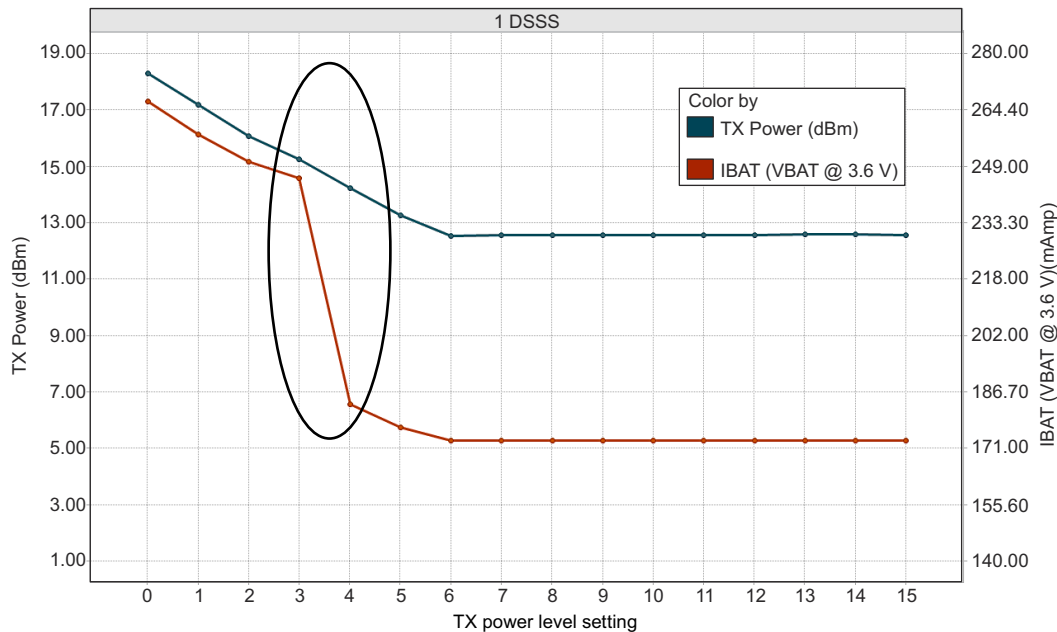
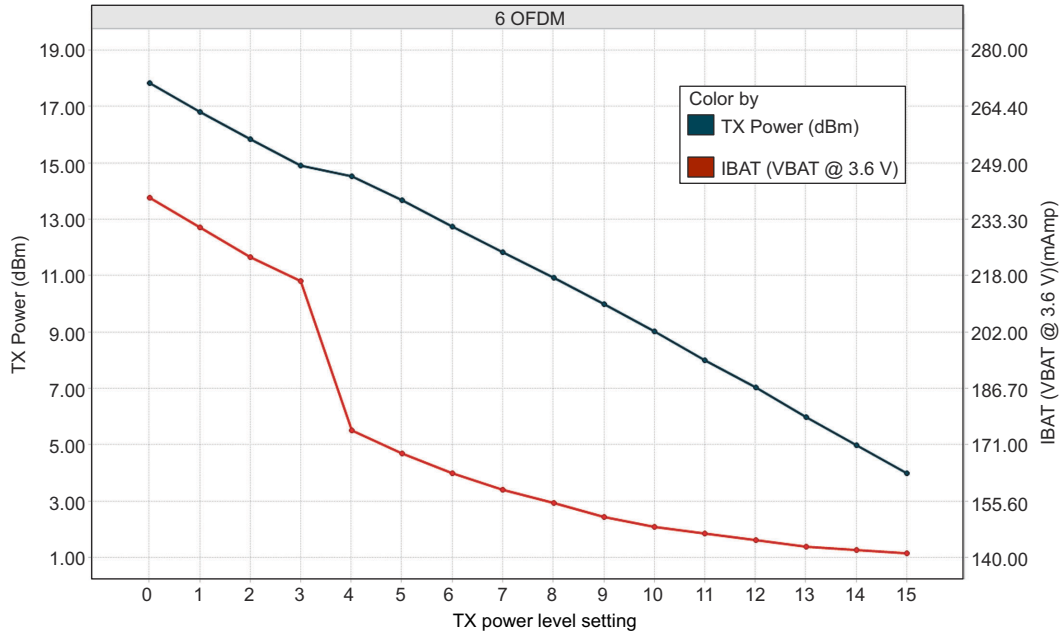
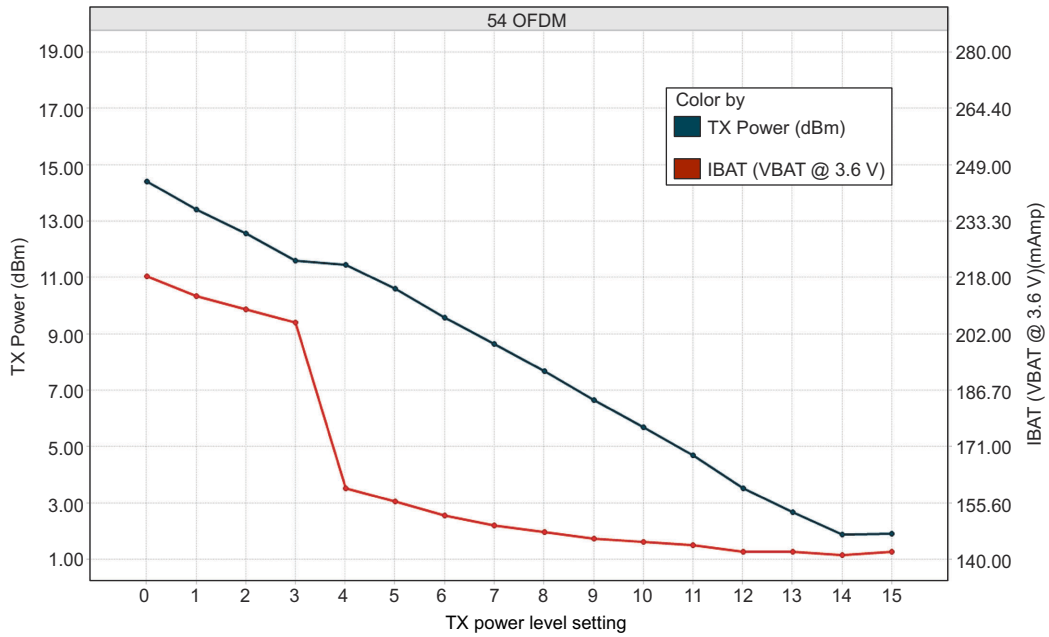

Figure 7-1. TX Power and IBAT vs TX Power Level Settings (1 DSSS)
Figure 7-2. TX Power and IBAT vs TX Power Level Settings (6 OFDM)
Figure 7-3. TX Power and IBAT vs TX Power Level Settings (54 OFDM)
- (1) TX power level = 0 implies maximum power (see Figure 7-2, Figure 7-2, and Figure 7-3). TX power level = 4 implies output power backed off approximately 4dB.
- (2) LPDS current does not include the external serial flash. The CC3235MODx and CC3235MODAx can be configured to retain 0KB, 64KB, 128KB, 192KB, or 256KB of SRAM in LPDS. Each 64-KB block of MCU retained SRAM increases LPDS current by 4μA.
- (3) DTIM = 1
- (4) The complete calibration can take up to 17 mJ of energy from the battery over a period of 24 ms. Calibration is performed sparingly, typically when coming out of HIBERNATE, and only if the temperature has changed by more than 20°C. The calibration event can be controlled by a configuration file in the serial flash.
- (5) Typical numbers assume a VSWR of 1.5:1.
Figure 7-1, Figure 7-2, and Figure 7-3 show TX power and IBAT versus TX power level settings for the CC3235MODS module at modulations of 1 DSSS, 6 OFDM, and 54 OFDM, respectively. For the CC3235MODSF module, the IBAT current has an increase of approximately 10 mA to 15 mA depending on the transmitted rate. The TX power level remains the same.⁴
In Figure 7-1, the area enclosed in the circle represents a significant reduction in current during transition from TX power level 3 to level 4. In the case of lower range requirements (14-dBm output power), TI recommends using TX power level 4 to reduce the current.